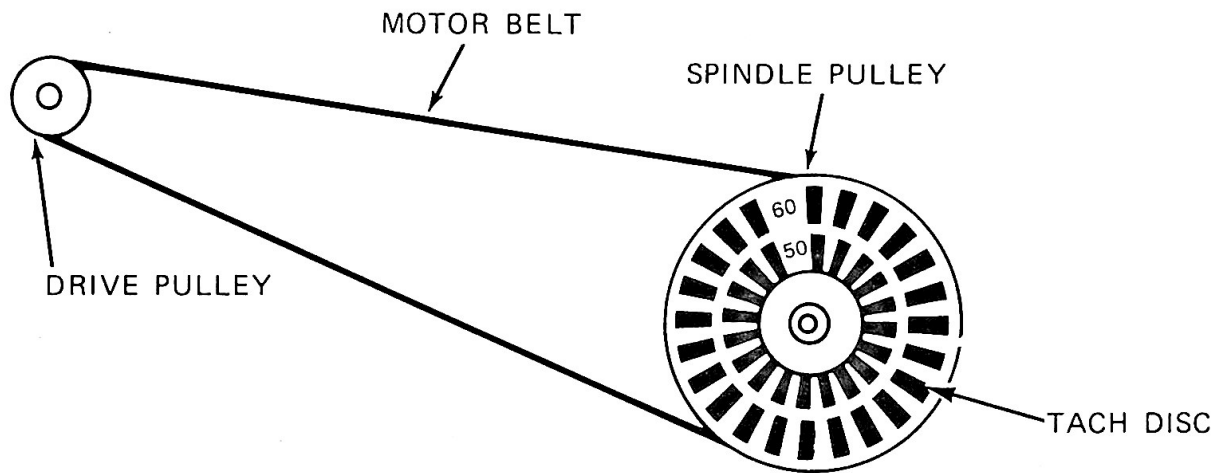

FIGURE 29. MOTOR SPEED ADJUSTMENT
- b. Turn the pot R-53 located on the drive PCB until the dark lines on the spindle pulley appear motionless. For 60 HZ use the outside ring of lines for 50 HZ observe the inside ring. Reference figure 29.